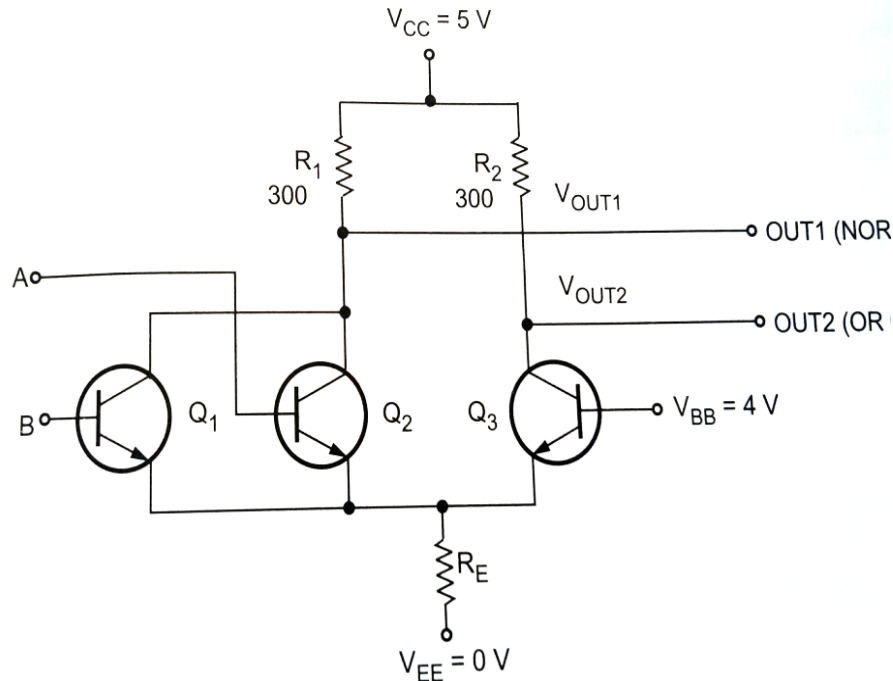

Figure 1.34: 2-input ECL OR/NOR gate
- Figure 1.34 shows, 2-input ECL OR/NOR gate and its logic symbol. There is an additional transistor in parallel with Q_1 as compared to ECL inverter.